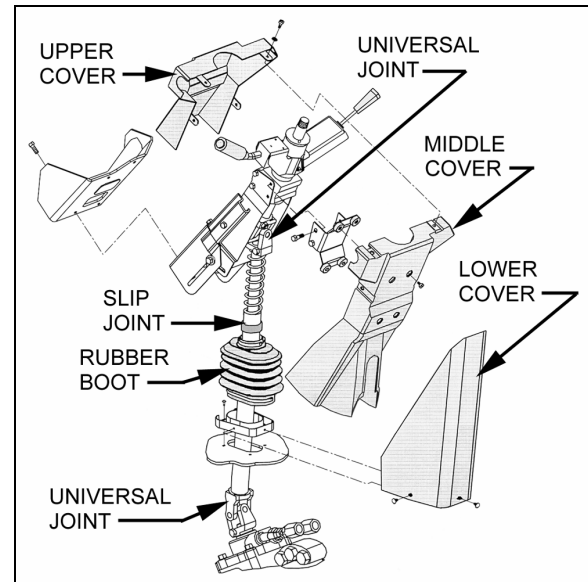

FIGURE 5: STEERING COLUMN
To disassemble the steering column from system, refer to Figure 5. The steering column has no lubrication points. The lower steering column U-joint is easily accessible through the front service compartment. The upper steering column U-joint and the steering slip joint are accessible from the front driver's area. To access these joints, proceed as follows:
1. From the front driver's compartment area, remove the three plastic fasteners on steering column lower cover. Remove the lower cover (Fig. 5).